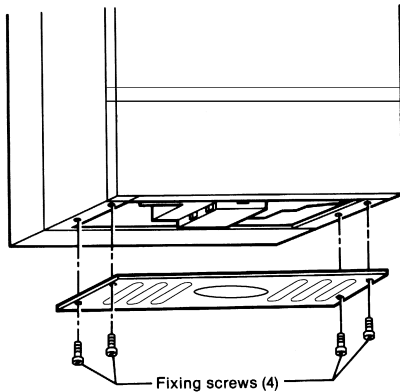

Fig. 11
- 5.2 Remove the boiler base plate, four screws (fig. 11). Remove the plugs fitted to the boiler water connections.